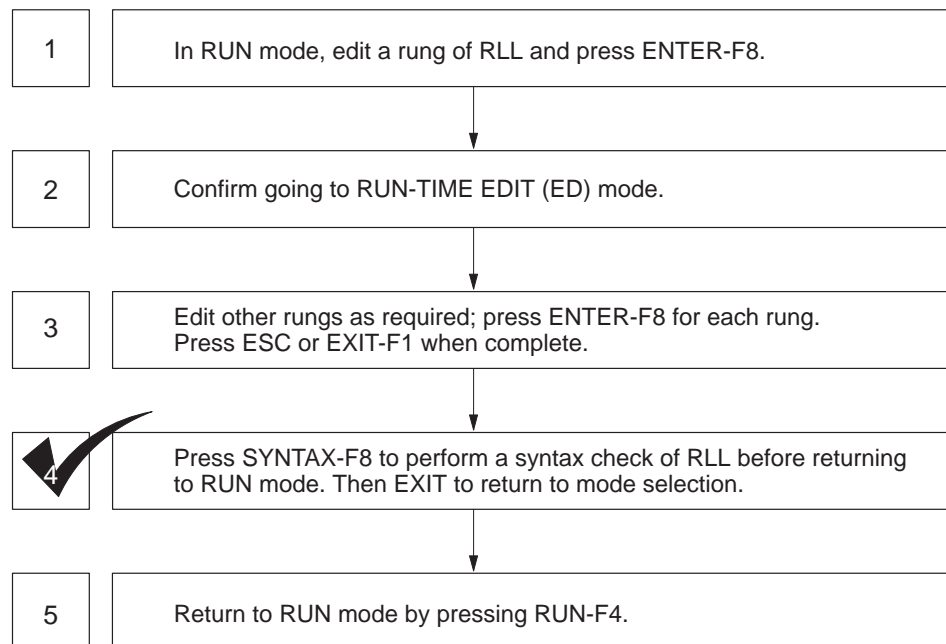

Figure 7-3 Task Flow for Run-time Edits
Some of the 545, 555, and 575 controllers have a RUN-TIME EDIT (ED) mode in addition to PROGRAM (PG) and RUN (RN) modes. RUN-TIME EDIT mode allows the editing of your RLL program while the process is running. Returning to RUN mode updates the program in the programmable controller to reflect the modifications made during RUN-TIME EDIT. See Figure 7-3 for a typical task flow.